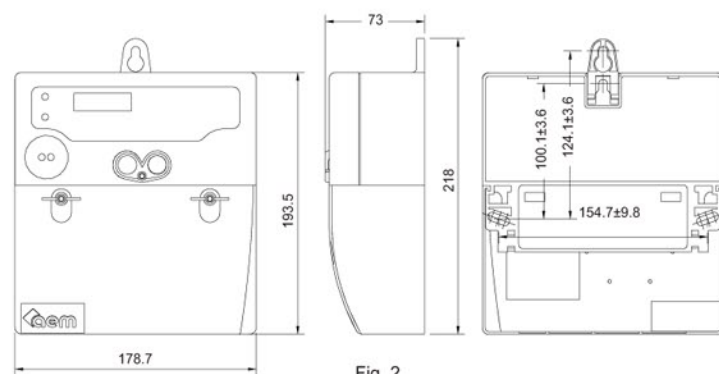

Fig. 2
- Overall dimensions: 194(218) x 179 x 70 mm, as shown in fig. 2
- 3 points mounting dimensions: 100 x 155 mm, as shown in fig. 2